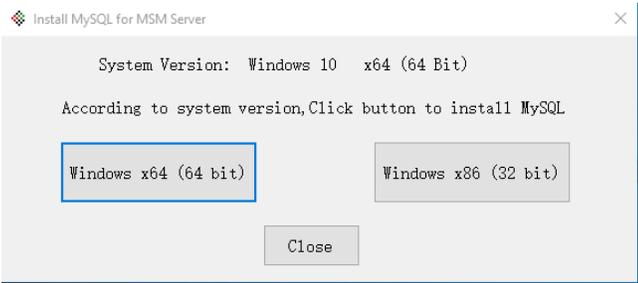

Figure A1-1
- 1. If MySQL is being installed as part of the installation for MSM Enterprise, when prompted to install MySQL, select the 32 or 64 bit version as appropriate for the PC receiving the MSM Server installation. (Figure A1-1)